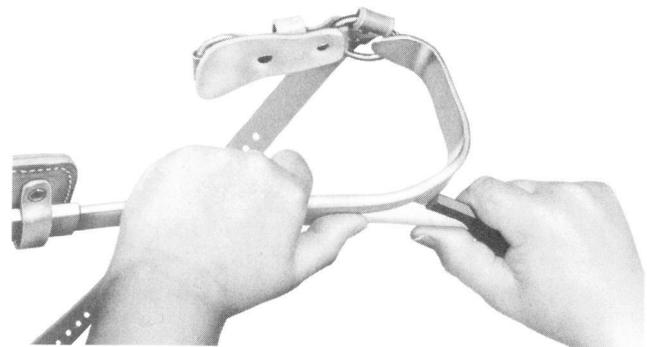

Fig. 19—Honing Inner Surface
7.04hone the inner surface of the gaff by starting the stroke near the leg iron and continue over the rounded curve of the tip as indicated in Fig. 19. Stop the honing stroke before the stone slides off the end of the gaff to prevent dulling the tip. About 20 to 25 strokes of the honing stone should be enough. **Do not attempt to reshape the tip of the gaff.**